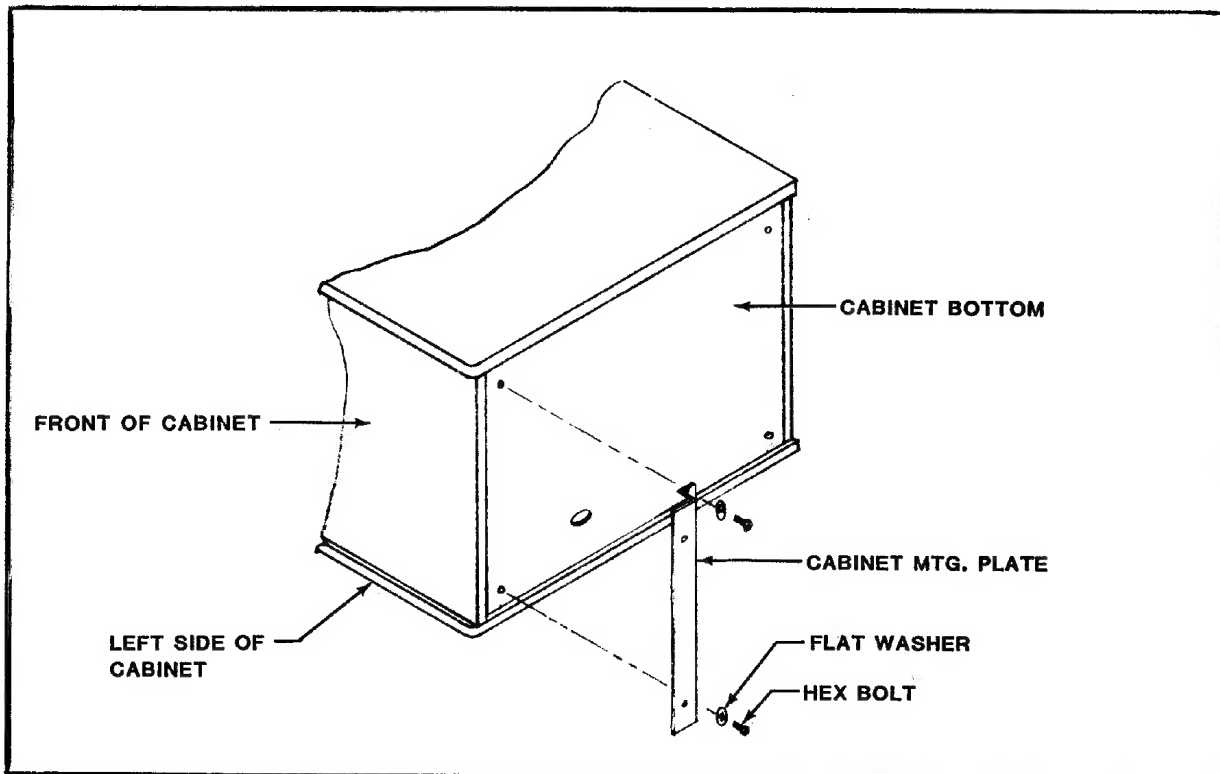

FIGURE 2
2. With cabinet still on its side, attach Cabinet Mounting Plate to front leg leveler mounting holes using two (2) hex bolts * and two (2) washers provided with kit (see Figure 2).
For SAC 1 game cabinet only: Run Floor Play Cable under cabinet to its rear and bring cable into cabinet thru rear opening where rear door notch is located (see Figure 2).